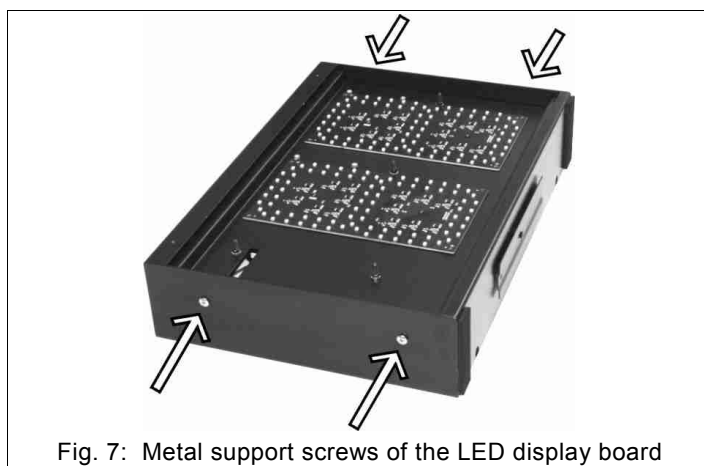
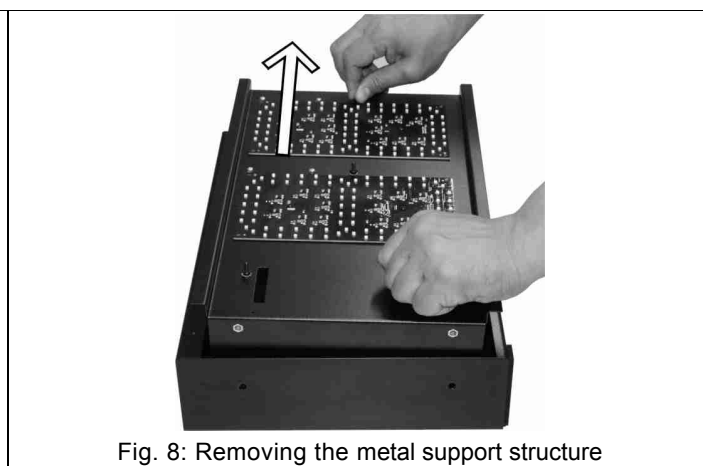
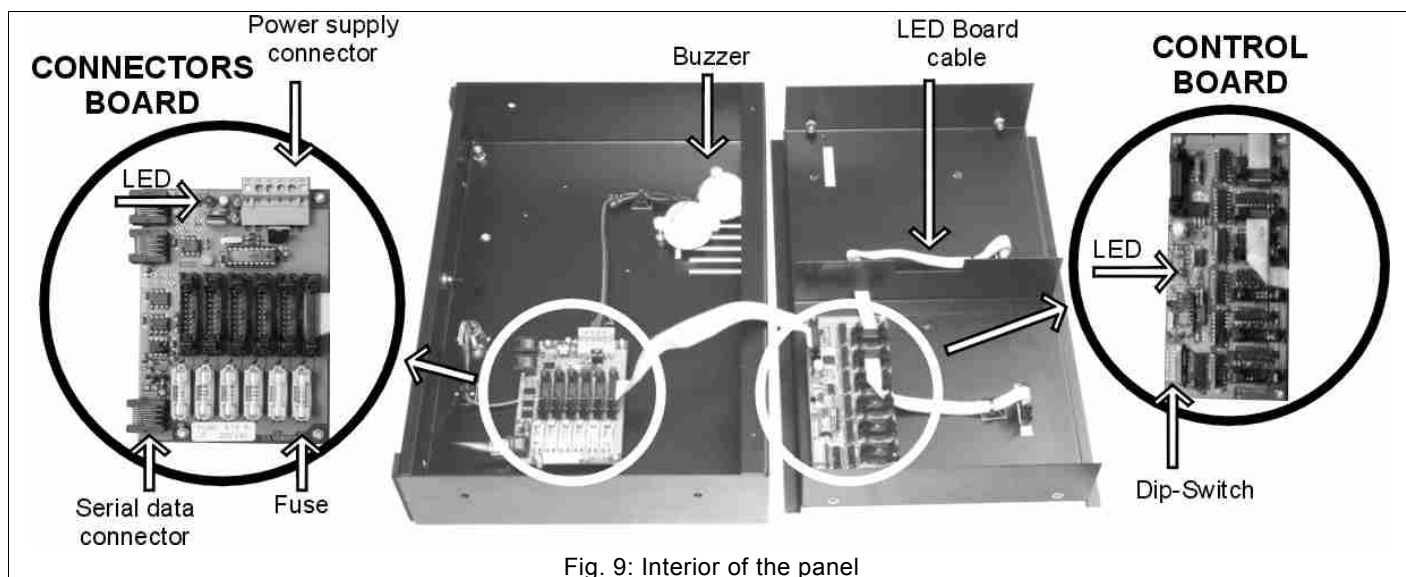

Fig. 7: Metal support screws of the LED display board
Fig. 8: Removing the metal support structure
Fig. 9: Interior of the panel
- c) locate the connectors board inside the panel (Fig. 9) and check that there is a continuous +24Vdc voltage to the power supply connector (the red LED on the connectors board should be illuminated); if this voltage is not present then check the cables and the connections Box, otherwise check the fuse near the connector where the 16-way flat cable from the control board has been inserted; replace the fuse if it has ruptured, otherwise replace the connectors board (chapter 5.4).
- b) connect the Console directly to the serial data connector of the connectors board (Fig. 9) by means of a properly functioning serial cable. Supply power to the panel;
2. Change the connection cable between the display board and the control board (Fig. 9).
- b) identify the acoustic transducer (Buzzer, Fig. 9) and disconnect the cables; try supplying power directly with a continuous voltage of +24 Vdc, paying attention that the polarity is correct (red cable: +);
3. Unscrew the 4 lateral screws showed on Fig. 7, lift the metal support of the LED display boards (Fig. 8) and place it on a desk as in Fig. 9.
4. Identify the control board housed inside the metal support structure (Fig. 9). Keeping in mind their original positions, remove all connectors from the control board.
5. With a 5.5 mm wrench, unscrew the 4 end nuts from the control board and remove it (Fig. 9).
2. Identify the connectors board (Fig. 9); keeping in mind their original positions, remove all the connectors from inside the
2. Identify the Buzzer in need of replacement (Fig. 9); disconnect the cables (red: +, black: -) from the connectors.
A with DIP-switches is located on each 30-seconds shot clock panel (Fig. 9), on the control board; the DIP-switches must have the following configuration.